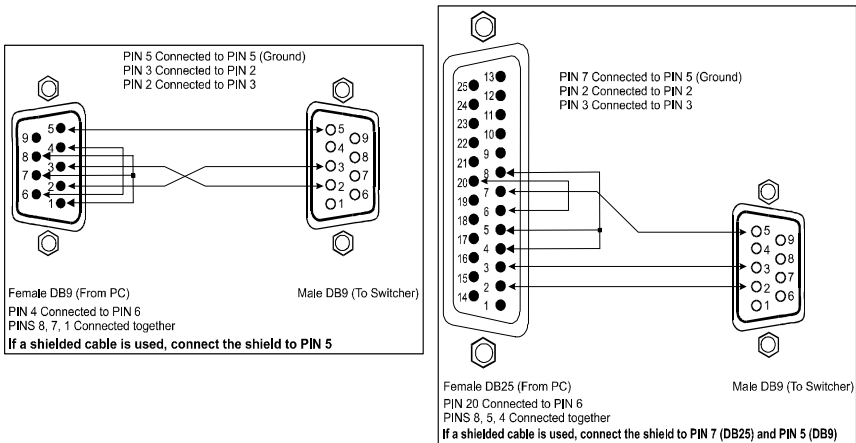

Figure 5: Connecting a PC without using a Null-modem Adapter
- Connect the RS-232 DB9 port on your PC to the RS-232 DB9 rear panel port on the **VP-128H** unit, as Figure 5 illustrates (depending on whether the PC has a 9-pin or 25-pin connector)